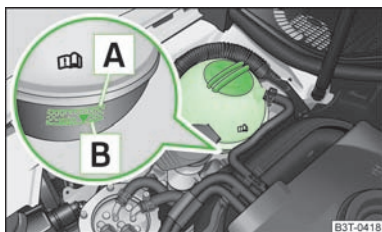

Fig. 138
When refilling, we only recommend you use the same antifreeze written on the antifreeze expansion tank » Fig. 138.
- Check the level of coolant in the coolant expansion bottle » Fig. 138. The coolant level when the engine is cold must lie between the [B] (MIN) and [A] (MAX) markings. The level may also rise slightly above the [A] (MAX) marking when the engine is warm.
- Place a cloth over the cap of the coolant expansion reservoir » Fig. 138 and unscrew the cap **carefully**.
Do not fill the coolant above the mark [A] (max.) » Fig. 138! Excess coolant heats up and then is forced out of the cooling system through the pressure relief valve in the cap.